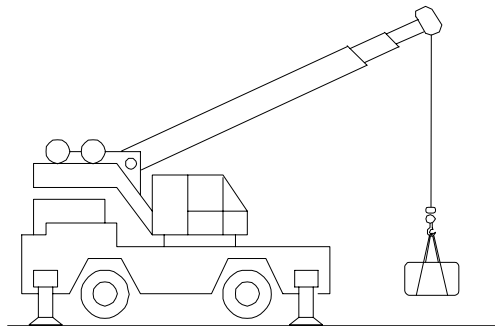

Figure 12
8. Lift the test weight off the ground (Fig. 12).